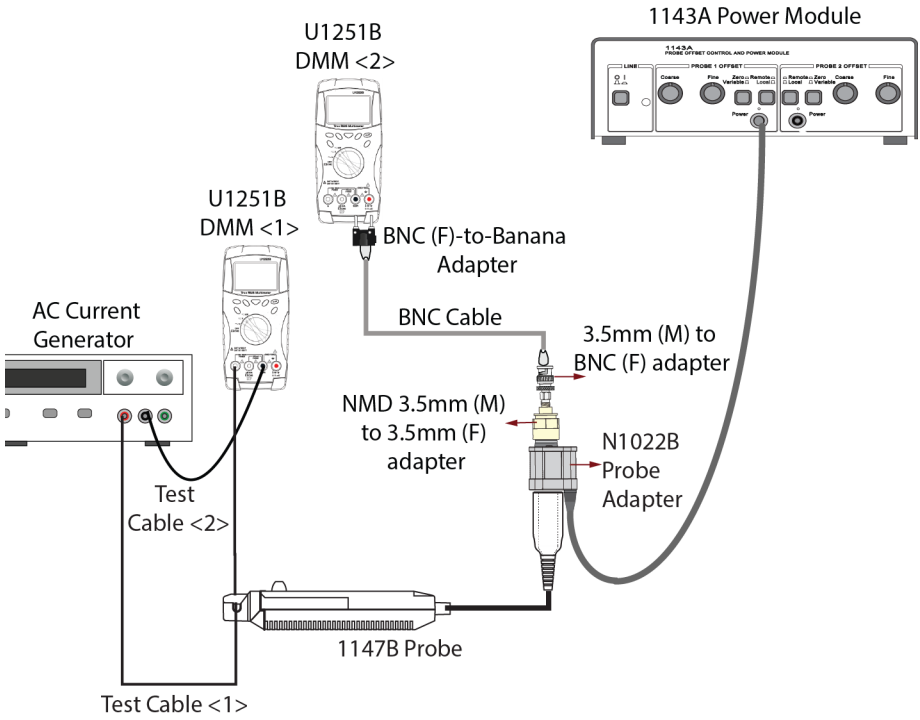

Figure 8 Complete Test Setup
- 6 As displayed in Figure 8 on page 20, connect a BNC cable to the:
- a N1022B adapter's output using the NMD 3.5mm (M) to 3.5mm (F) adapter and 3.5mm (M) to BNC (F) adapter.
- b DMM <2> using a BNC (F)-to-banana adapter.